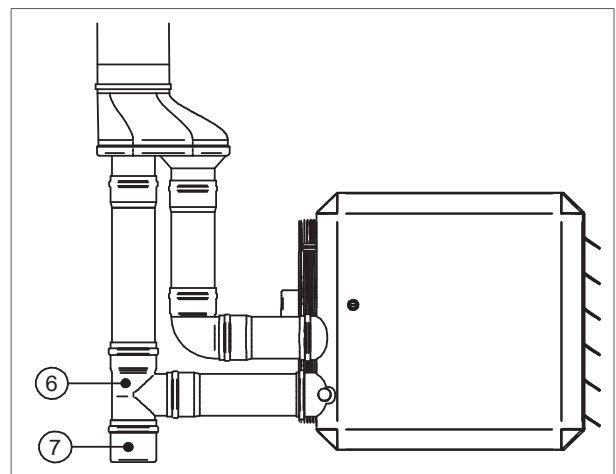

Figure 15 - A T-piece (6) and condensate trap (7)
- Add a T-piece (figure 15).
- Place a condensate trap (figure 15).